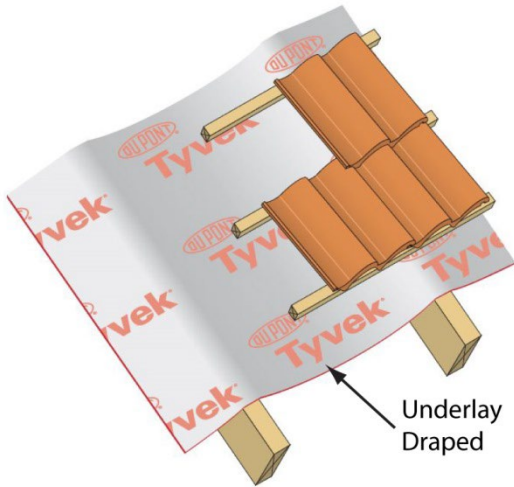

Figure 1
1. Cold roof - Ventilated or non-ventilated (Figure 1)